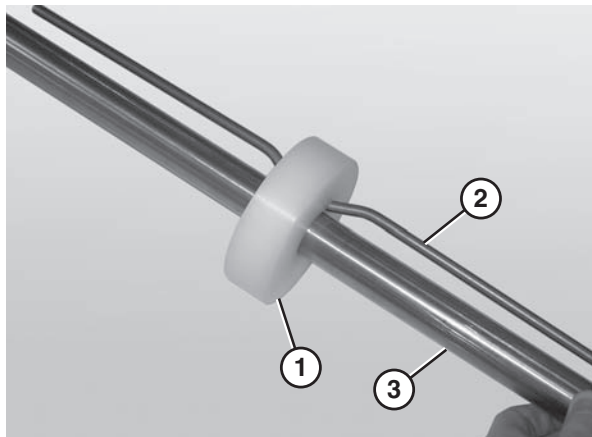

Figure 64
1. Place the idler puck (Figure 64, item 1) at the center of the bent retaining bar (Figure 64, item 2).
2. Slide the idler puck onto the idler shaft (Figure 64, item 3). Make sure to center the idler puck.